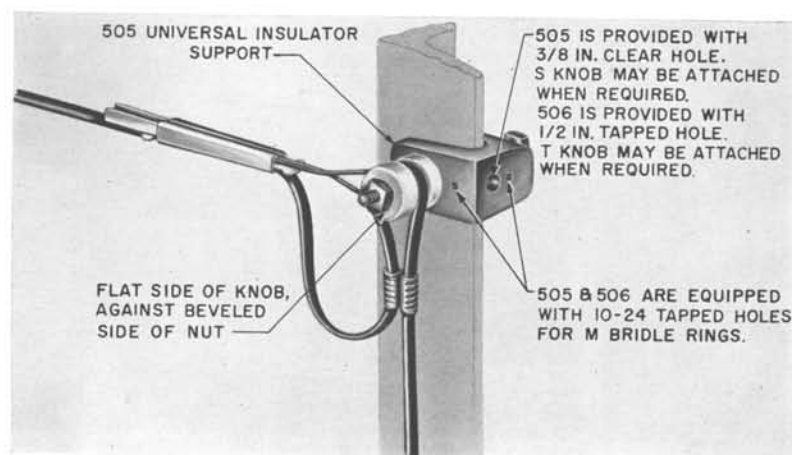

FIG. 8—FIRST ATTACHMENT—No. 505 OR 506 UNIVERSAL INSULATOR SUPPORT
4.02 The Nos. 505 and 506 Universal insulator supports may be used as first attachments for drop and block wires on structural steel framework, provided that the support is so placed that it will be pulled against the structural steel member (see Fig. 8). The setscrew should be securely tightened.